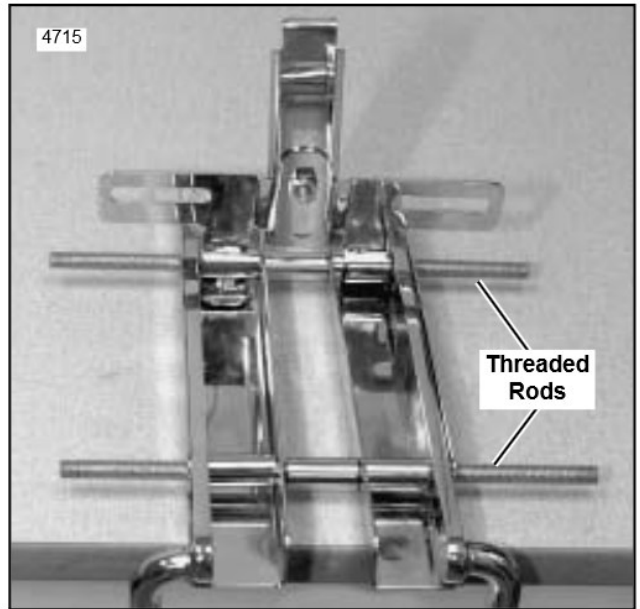

Figure 4. Install Threaded Rods
- See Figure 4. At the front (backrest side), slide a threaded rod through the inner channels, backrest bracket and